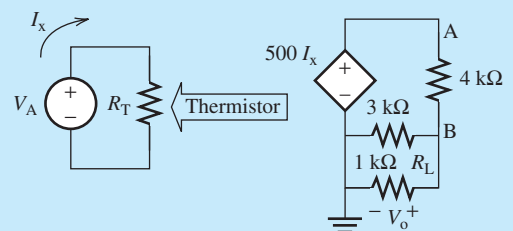

FIGURE 3.44 Circuit model for the controlled thermistor.
The thermistor is connected as shown in Figure 3.44. The output voltage, V_o , is measured to be 0.73 V . This is the voltage seen by the monitoring computer. The voltage, V_A , is used to convert the varying resistance of the thermistor to the varying current, I_x . This is isolated from the computer by the dependent source.
- a. Based on Figure 3.44, the output voltage is given, therefore, $V_o = V_B = 0.73\text{ V}$. Now, using node voltage analysis applied to node B: